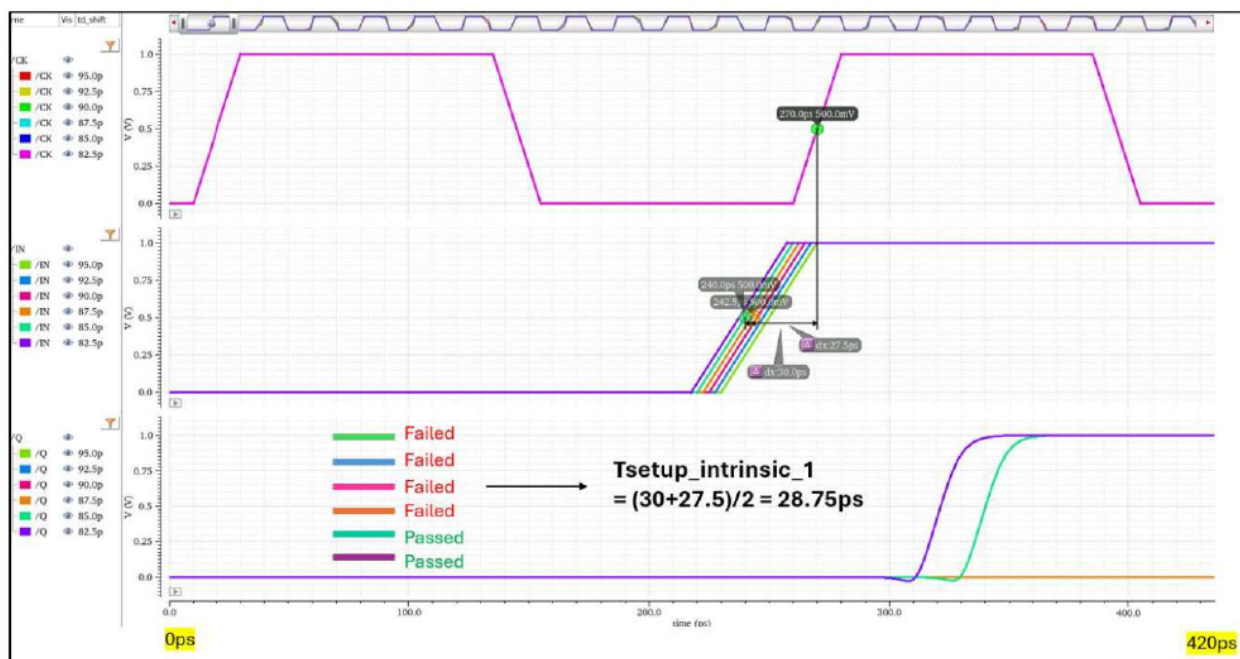
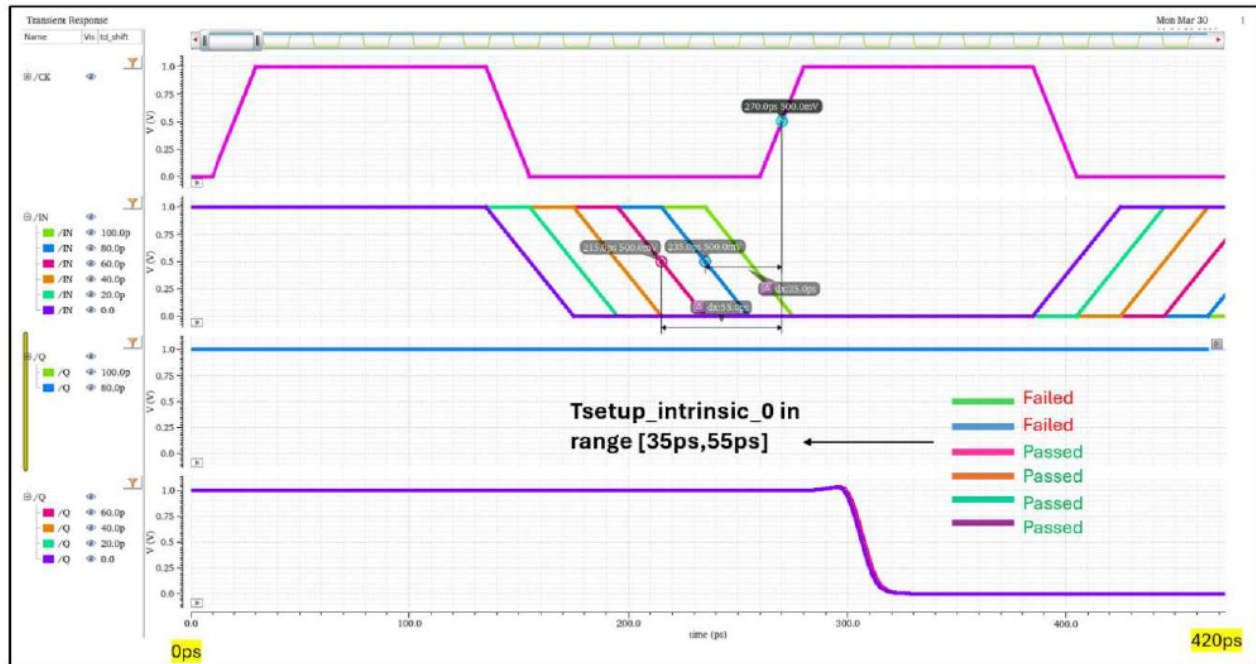

Figure 11. The waveform of setup time intrinsic data 1 of DFF
Figure 12. The waveform of setup time intrinsic data 0 of DFF
- **Figure 11** illustrates the waveform and method used to measure the intrinsic setup time for data '1' of the D flip-flop. The delay between the data input (IN) and clock (CK) is reduced from 32.5ps to 20ps. When the delay is 30ps, the output transitions to a high level, indicating that the DFF correctly captures the input data. However, at a delay of 27.5ps, the output remains at a low logic level, showing that the DFF fails to capture data '1'. Therefore, the intrinsic setup time for data '1' is determined to be approximately 28.75 ps.
- Students should apply the same method to measure the intrinsic setup time for data '0'. Configure the DATA signal to start at logic '1' instead of logic '0', as shown in **Figure 12** (Hint: modify the VDATA source).
- Report 4 waveforms used to measure the intrinsic setup time, as shown in Figure 11 and Figure 12.